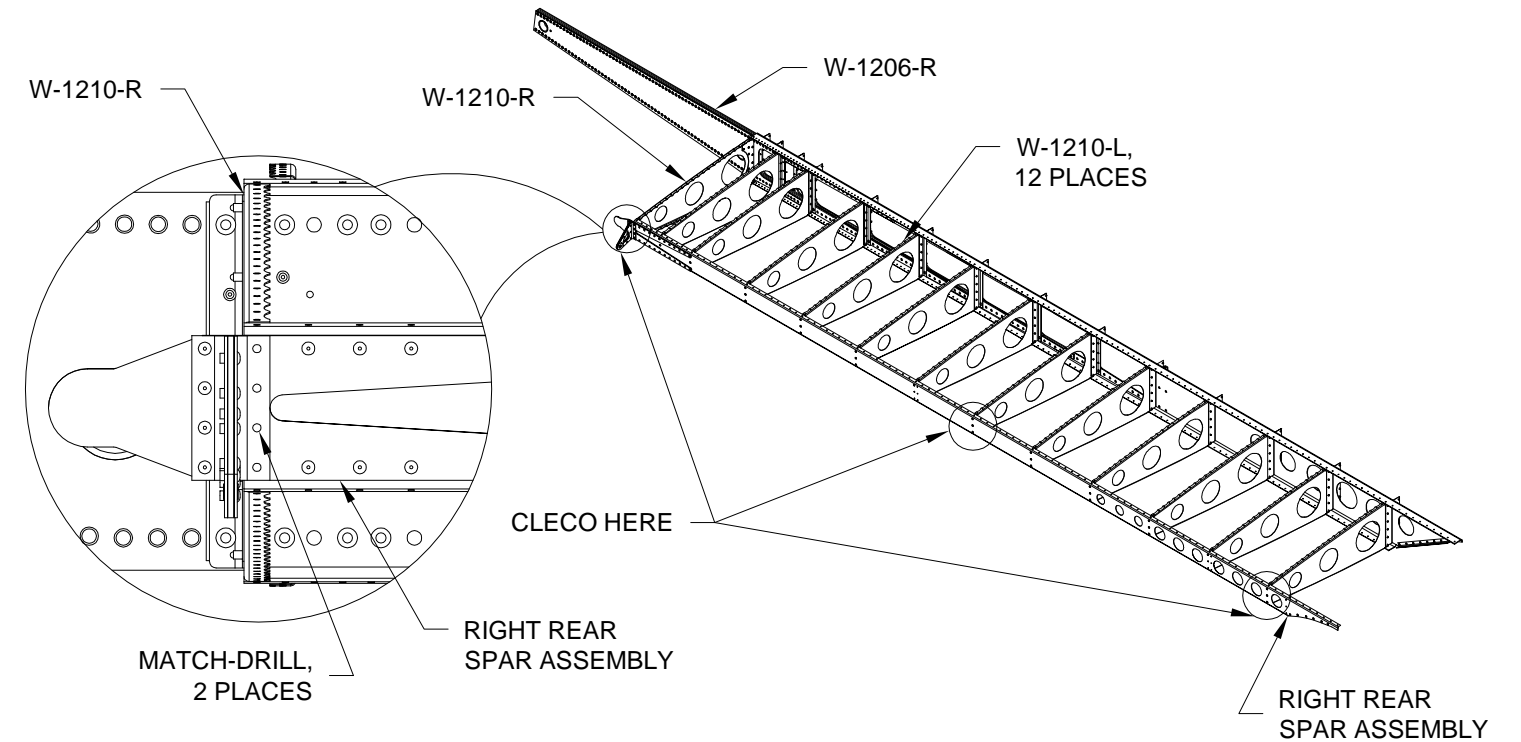

FIGURE 3: MATCH-DRILLING MAIN RIB AFT FLANGE
Step 8: Cleco the Right Rear Spar Assembly to the aft flanges of the W-1210 Main Ribs as shown in Figure 3.
Step 9: Match-drill #30 the hole locations in the aft flange of the main rib as shown in Figure 3. Remove clecos and Rear Spar Assembly and deburr match-drilled holes as required.